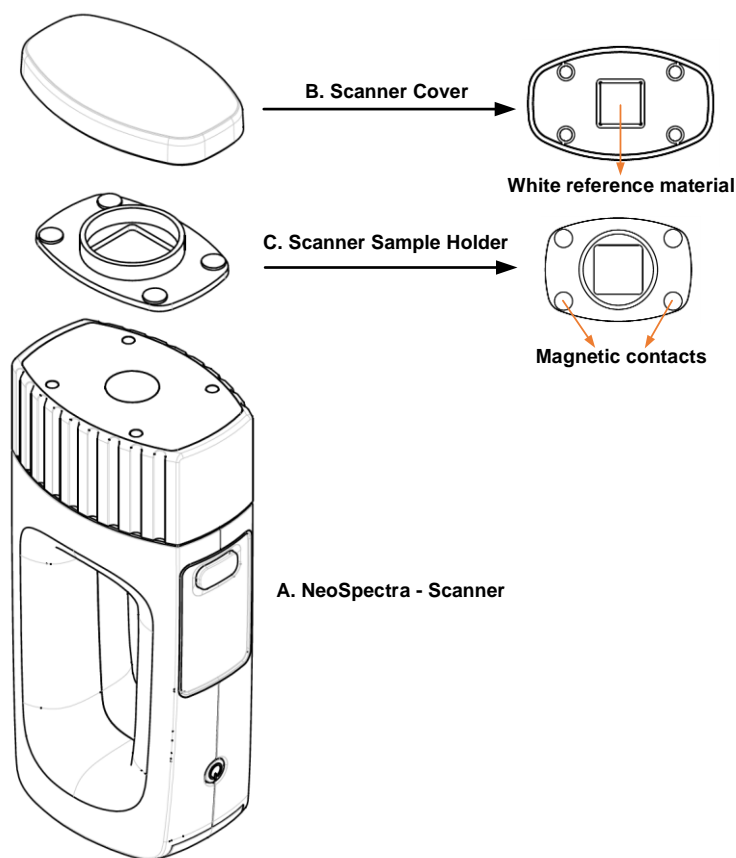

Figure 1 NeoSpectra – Scanner Box Components
- A. **NeoSpectra - Scanner:** The main spectra collection device with NeoSpectra sensor inside (Figure 1).